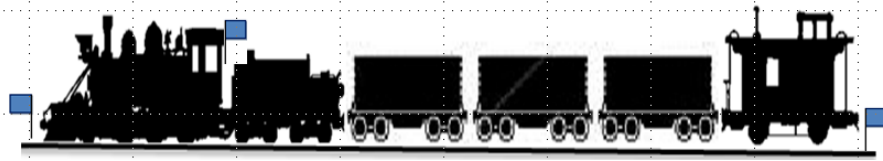

Figure 3 – Placement of blue flag visible to engineer
On Main Loop Track. A blue signal must be displayed at each end of the rolling equipment. (See Figure 3)
2. The engine must not be moved. (See figure 3 below)